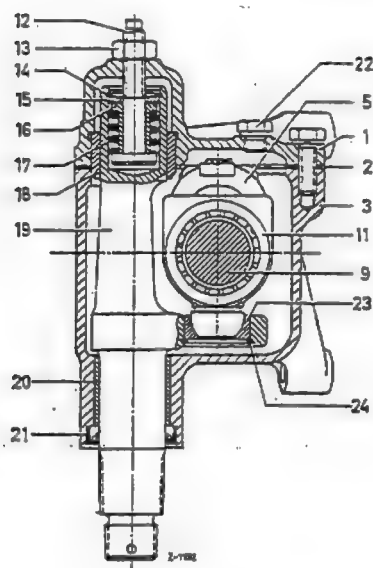

Fig. 46-4/3
2. Unscrew the screw plug (22) from the steering housing cover and check the adjustment of the pressure block assembly. As an additional check turn the steering at the steering worm by means of the steering coupling and at the steering shaft by means of the steering gear arm. When the steering shaft passes the center position, it must on no account bind, but the point where there is a slight resistance must be noticeable (Fig. 46-4/3).